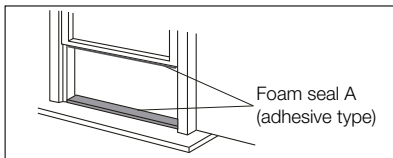

Fig. 12
1. Cut the foam seals (adhesive type) to the proper lengths and attach them to the window and stool. (Fig. 12)